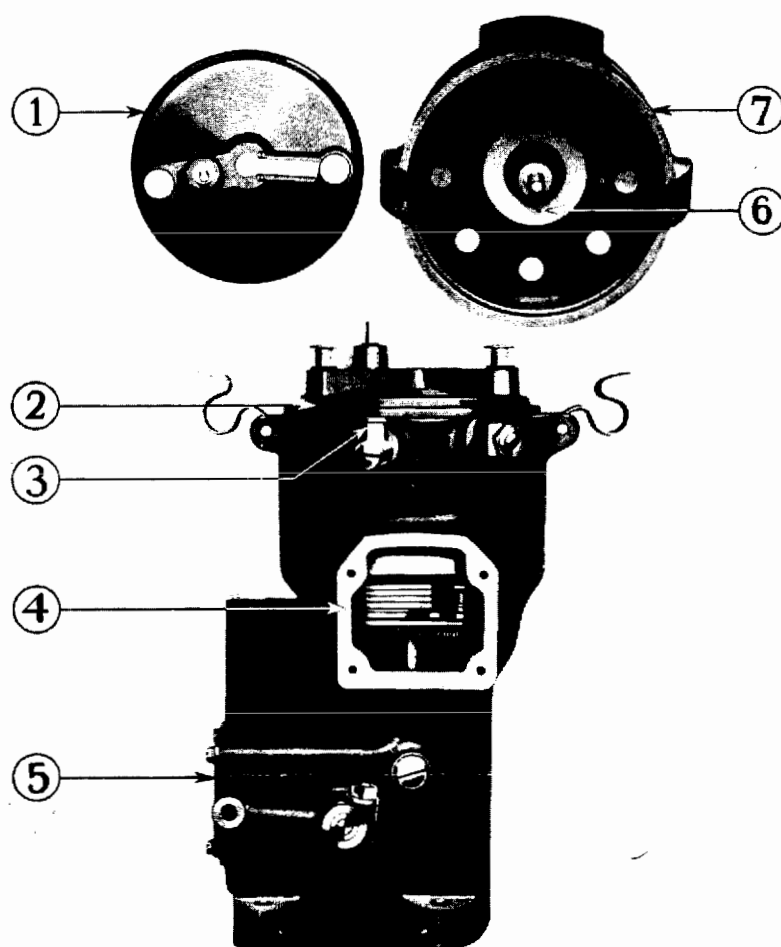

Fig. 27
Lubrication of the upper ball bearing of the distributor shaft is taken care of by placing 3 or 4 drops of engine oil in the oil cup (3) Fig. 27, every 250-500 miles. Care should be taken not to over-oil at this point, as we have had cases of breaker point trouble caused by the excess oil being thrown off the cam and getting on the points with consequent corrosion and burning. The lower ball bearing and mechanism of the spark control receive
their lubrication from the light cup grease carried in the lower part of the distributor housing. This section of the housing should be kept filled with light cup grease to a level just above the cover plate (5) Fig. 27. It can be filled through the higher opening (4) on the left side of the distributor.